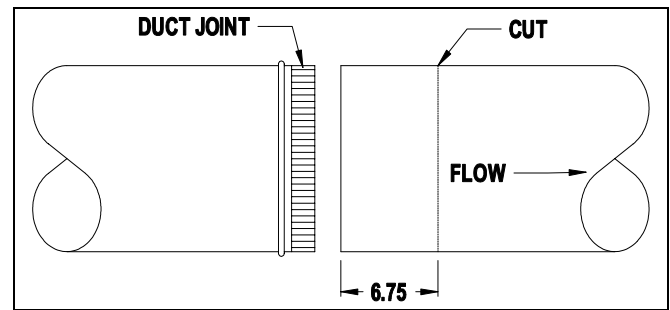

Figure 1
1. Separate the duct at a joint near the problem area and cut 6-3/4" off the end of the duct pipe. (See Figure 1)